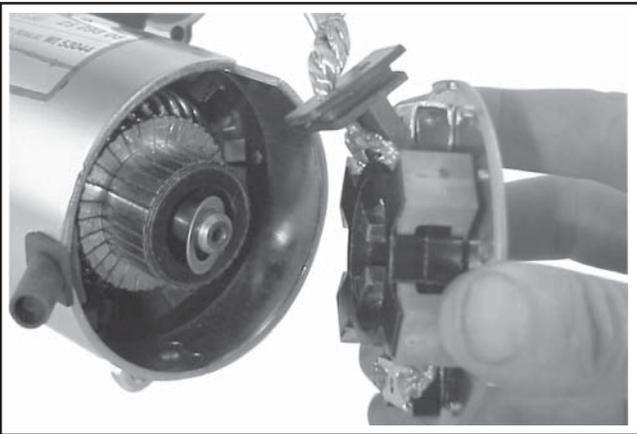

Figure 8-20. Removing Commutator End Plate Assembly.
5. Remove the commutator end plate assembly, containing the brush holder, brushes, springs, and locking caps. Remove the thrust washer from inside the commutator end. See Figure 8-20.